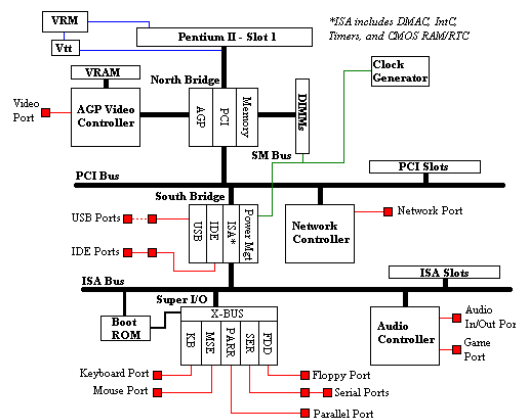

Figure 2 – Example Board Architecture
1. Understanding the board structure. That is, divide the board into functional blocks, and create an hierarchical block diagram of the board structure, similar to the one shown in Figure 2. This example shows a familiar PC architecture, but the same principles apply to any board architecture.
Using available board documentation divide the board into functional blocks, and draw a block diagram of the board structure, similar to the one shown in Figure 2.